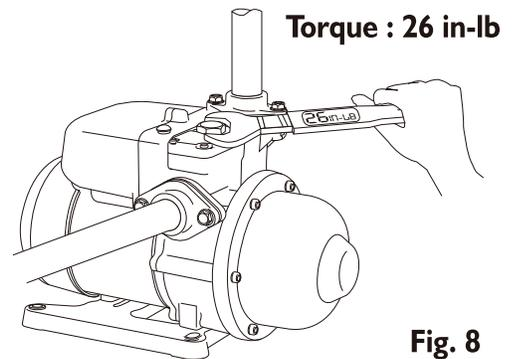

Fig. 8
1. Before starting, the pump must be primed. For installation with no inlet pressure, please follow the procedure as shown in Fig. 8.